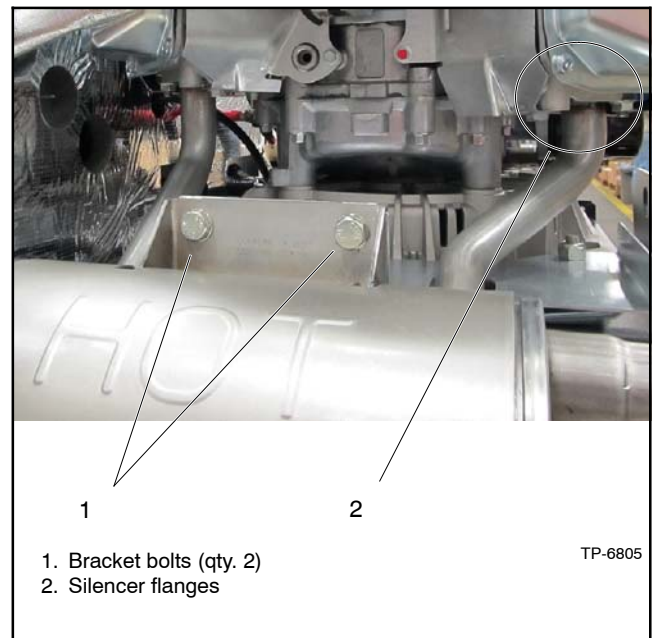

Figure 6-12 Silencer Connections
32. Disconnect the silencer from the engine at the two flange connections and remove the silencer. See Figure 6-12.
1. Install the exhaust system. See Figure 6-12.